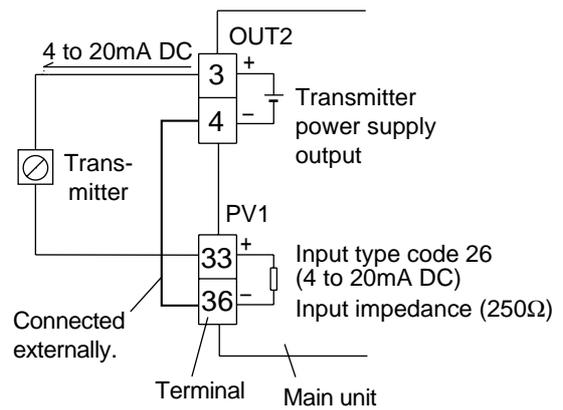

Fig. 6 External wiring for the model with the transmitter power supply
- When the transmitter power supply model is selected, the external wiring will be connected as Fig. 6.